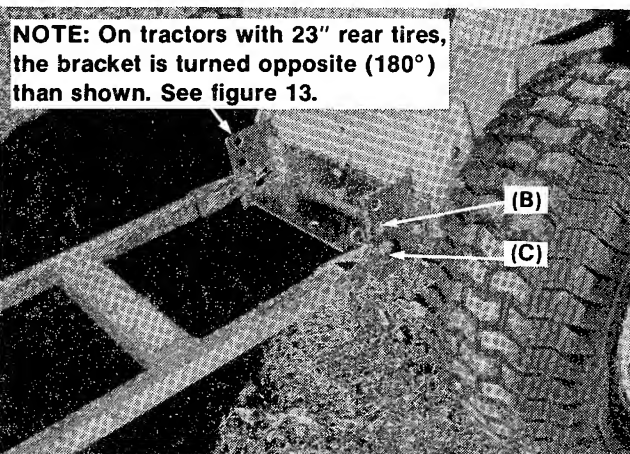

Figure 19.
- a. Attach the cart to the tractor by aligning the two ends of the H-frame to the holes in the bracket (figure 19). Use the holes that will make the cart level. Secure the cart to the bracket with two clevis pins and hairpin cotters.